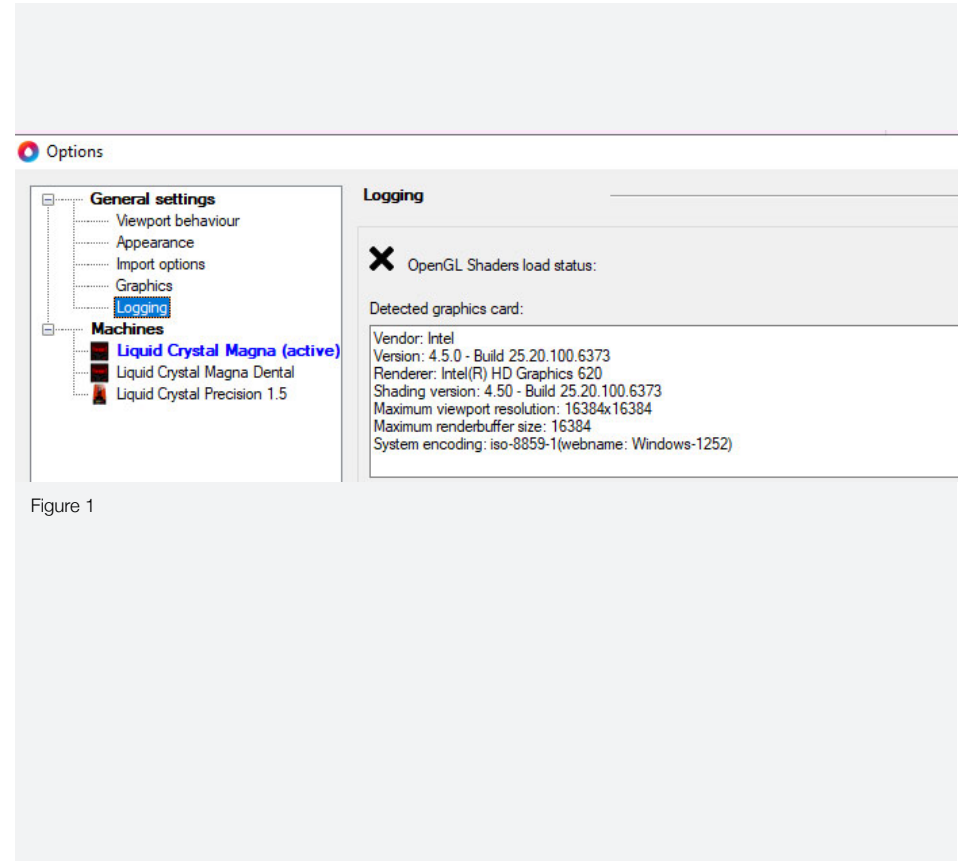

Figure 1
- Your system could operate with an integrated or a non-integrated graphics card. Photocentric Studio by default may run with the integrated graphics card. To check this click 'File', 'Configuration', 'General Settings', 'Logging' (figure 1).